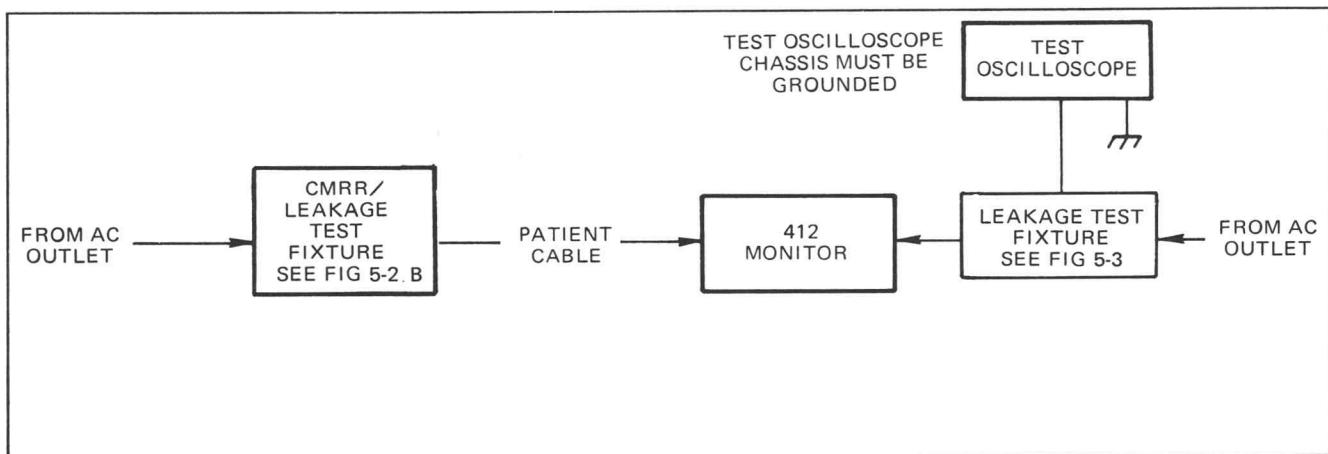

Fig. 5-13. Alternative method to check leakage current.
**ALTERNATIVE METHOD.** Set up the monitor and the test fixtures as shown in Fig. 5-13.
ADJUST—QRS Timing (R354): 10 ms3 timing pulse (see Fig. 5-13).